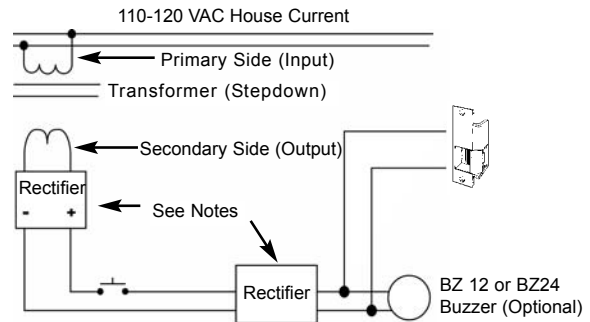

Figure 10.
4. If required, run new wiring to door frame mounting hole. See Figure 10 for typical wiring installations. Refer to wiring chart below for correct wire size. (Total wiring length includes routing to door-release push button.)
For DC operation, to obtain an audible signal when Electric Strike is energized, install buzzer type BZ-12 for 12 VDC operation, or BZ-24 for 24 VDC operation (purchased separately), as illustrated in Figure 10. DC buzzer must be wired in parallel.